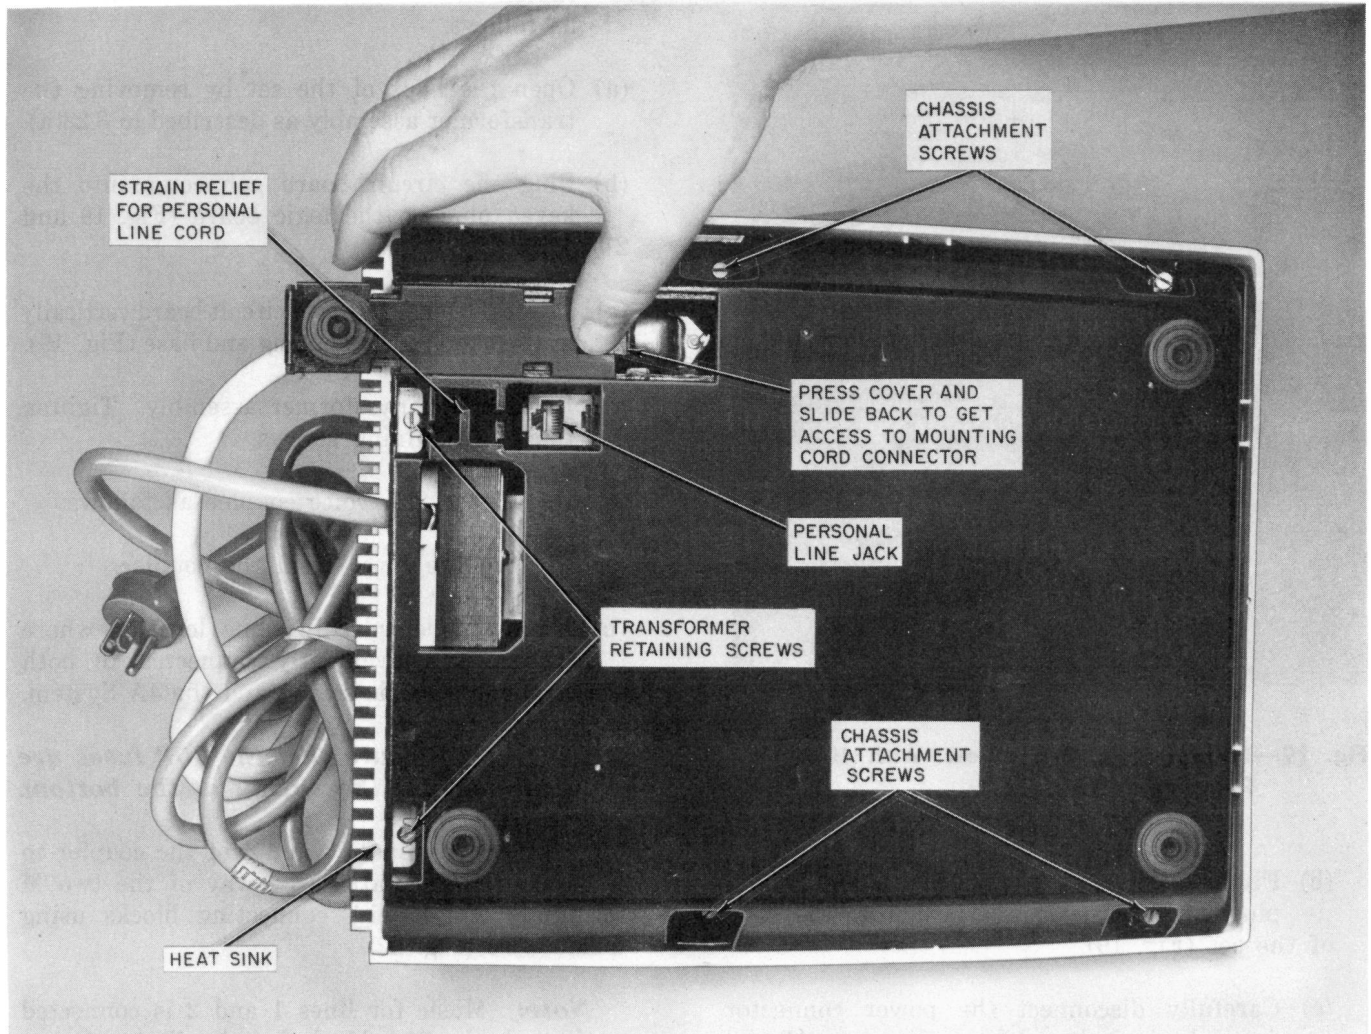

Fig. 18—Primary Set, Bottom View
- (a) Remove the power transformer and heat sink assembly from the back of the set by loosening the two retaining screws under the rear of the set (Fig. 18) and pulling out on the heat sink. It is not necessary to remove the screws but only to back them out about 1/8 inch. Pulling gently on the power cord to dislodge the transformer from the plug inside the set is permissible.